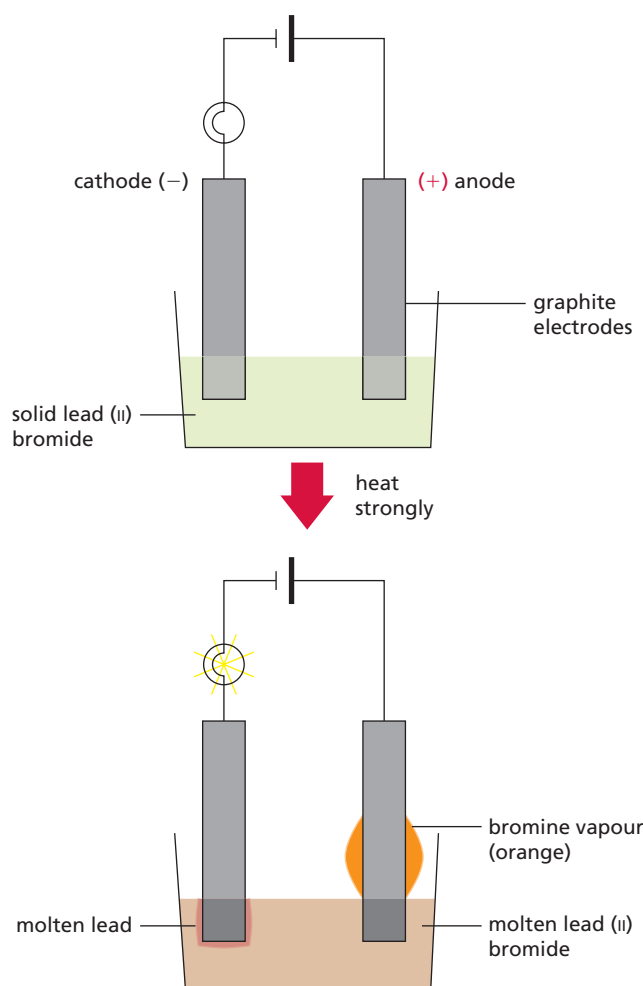

Figure 5.3 The electrolysis of molten lead(II) bromide.
Consider Figure 5.3, which shows solid lead(II) bromide (PbBr_2) in a crucible with two carbon electrodes in contact with it. When the electrodes are first connected, the bulb does not light, because the solid compound does not allow electricity to pass through it. However, when the compound is heated until it is molten, the bulb does light. The lead(II) bromide is now behaving as an electrolyte. When this happens an orange-red vapour is seen at the anode and lead metal is produced at the cathode.